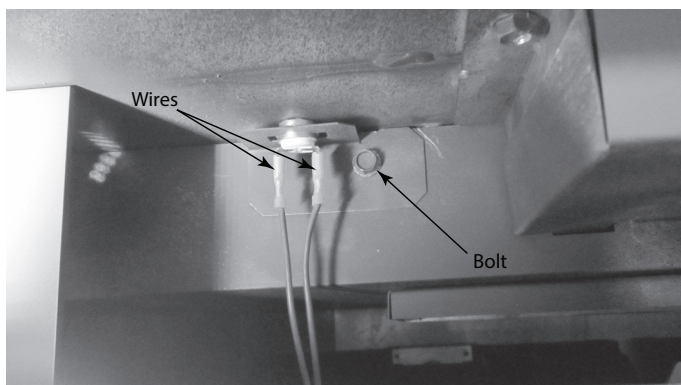

**Figure 4.38 Snap Disc Replacement**
6. Install the new snap disc in the bracket and reinstall in the fireplace. See Figure 4.38.